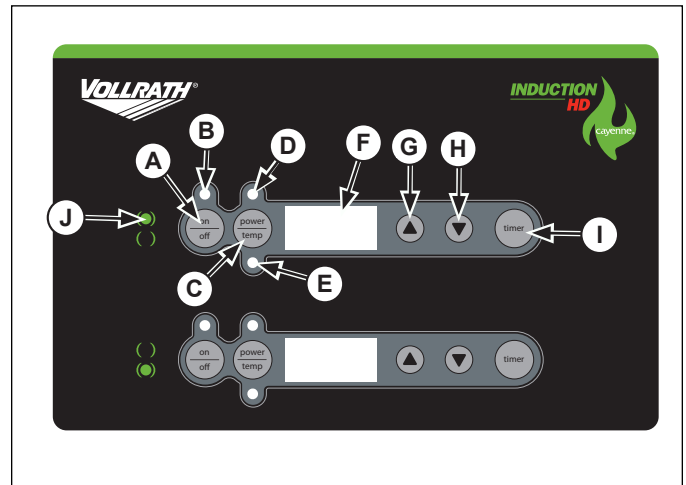

Figure 2. Digital Model Control Panel
1. Press the on/off button (A) to turn on the hob on. See Figure 2. The on led (B) will illuminate. When induction-ready cookware is placed on the range, the display will remain “steady on” with a value. This indicates the unit is heating. Models with two heating surfaces will have separate ON/OFF buttons for each heating surface.
2. Press the power/temp button (C) to choose a cooking power level (1 – 100) or an approximate temperature (100° – 400° F). The power led light (D) will illuminate when the unit is in the power mode. The temperature light (E) will illuminate when the unit is in the temperature mode.
3. Press the up button (G) or the down button (H) to increase or decrease the power level or temperature.